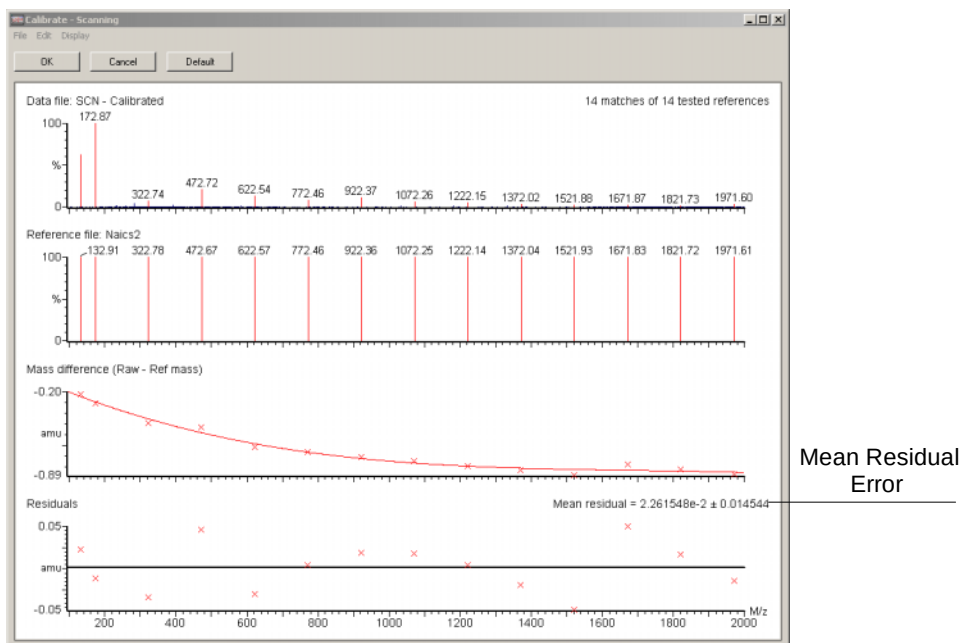

Figure 4-12 Calibrate Window Showing ZQ-4000 Calibration Graphs
MassLynx momentarily displays a successful calibration and then prints its Calibration report. However, if the standard deviation of a calibration's residuals exceeds the preset maximum, the software displays a set of calibration graphs in the Calibration window (Figure 4-12). These help you identify the problem.
7. Select **Print Report**, and click **OK**. The Calibrate window appears displaying calibration graphs (Figure 4-12).
Always examine the on-screen Calibration report (Figure 4-12) for correct peak matches. The calibration is correct when the acquired spectrum looks like the reference spectrum, and it highlights all the expected peaks.